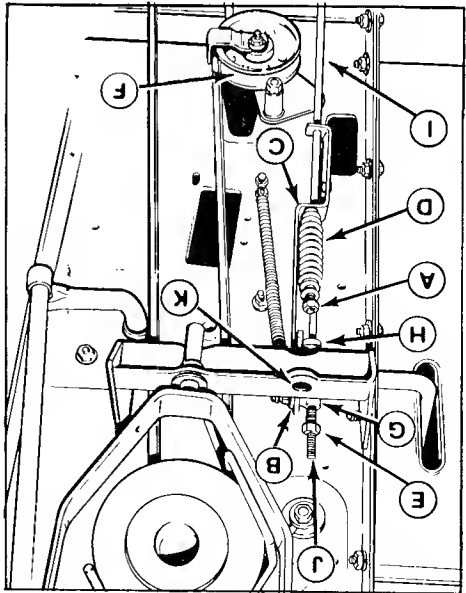

Figure 26. Brake-Clutch Adjustment
- Place the transmission in gear and release the parking brake. Move the brake rod (I, figure 26) back and forth to be sure there is no tension on the brake pads.
The clutch-brake pedal must be in up position. With one hand, push rod guide (C, figure 26) as far forward as slot (B) will allow while pulling rod (I) back with other hand. With rod guide in this position, tighten or loosen nut (A) until 1/4 inch (6.3 mm) of clearance is obtained between nut and end of spring.
a. With the pedal up, push the idler pulley (F, figure 26) firmly against the belt. With the pulley in this position, the gap between nut (E) and the rod guide (G) should be 7/8 to 1 inch (22 to 25 mm). If not, tighten nut (E) to decrease gap or loosen nut to increase gap. Recheck the measurement.
b. Depress and lock the clutch-brake pedal. Loosen the setscrew in the set collar (H). Move the collar against the spring which is located between collar (H) and rod guide (G). Be sure spring is seated as far as possible over rod guide (G). Push the collar 1/4 to 3/8 inch (6.3 to 9.5 mm)